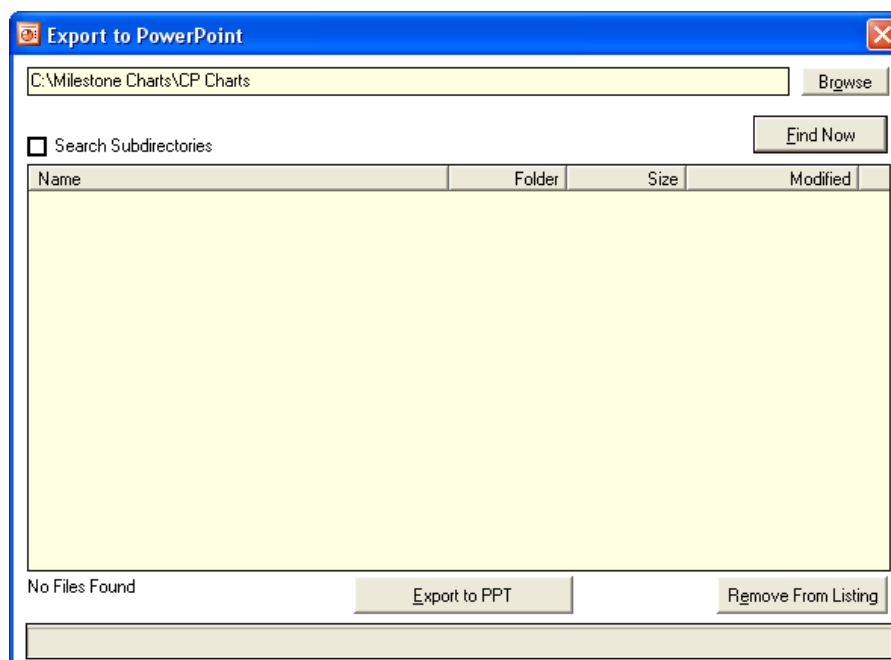

Figure 9
- 3) The export utility interface has several fields and options to enable exporting of Milestones Professional files to MS Power Point. (Figure 9)